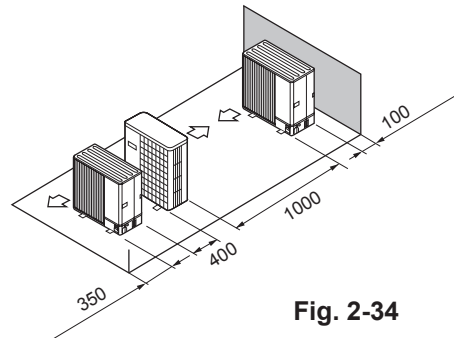

Fig. 2-34
- ⑤ Single parallel unit arrangement (Fig. 2-34)